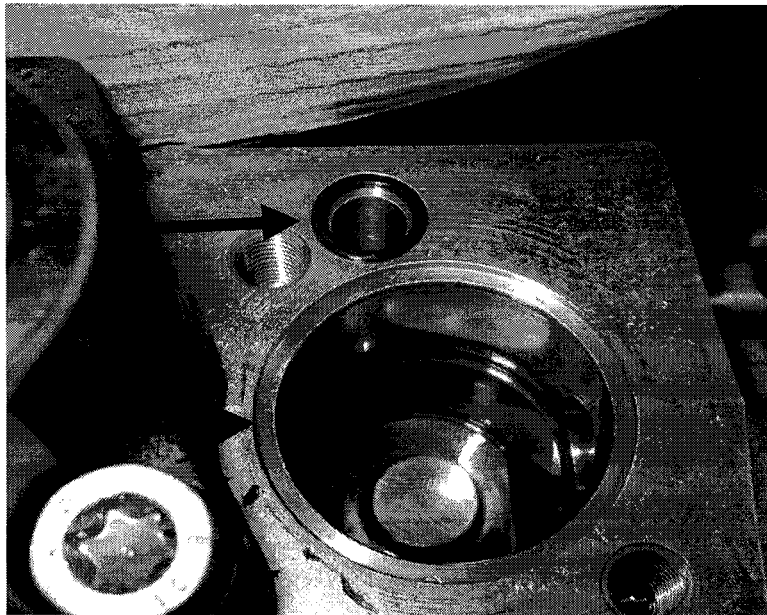

Figure 9 – Cleaning Of High Pressure Fuel Pump Element Sealing Surface
15. Clean the area around the pumping element sealing surface with a clean lint free cloth. Ensure the bolt holes are clean and fluid free. Do not use compressed air! See Figure 9.